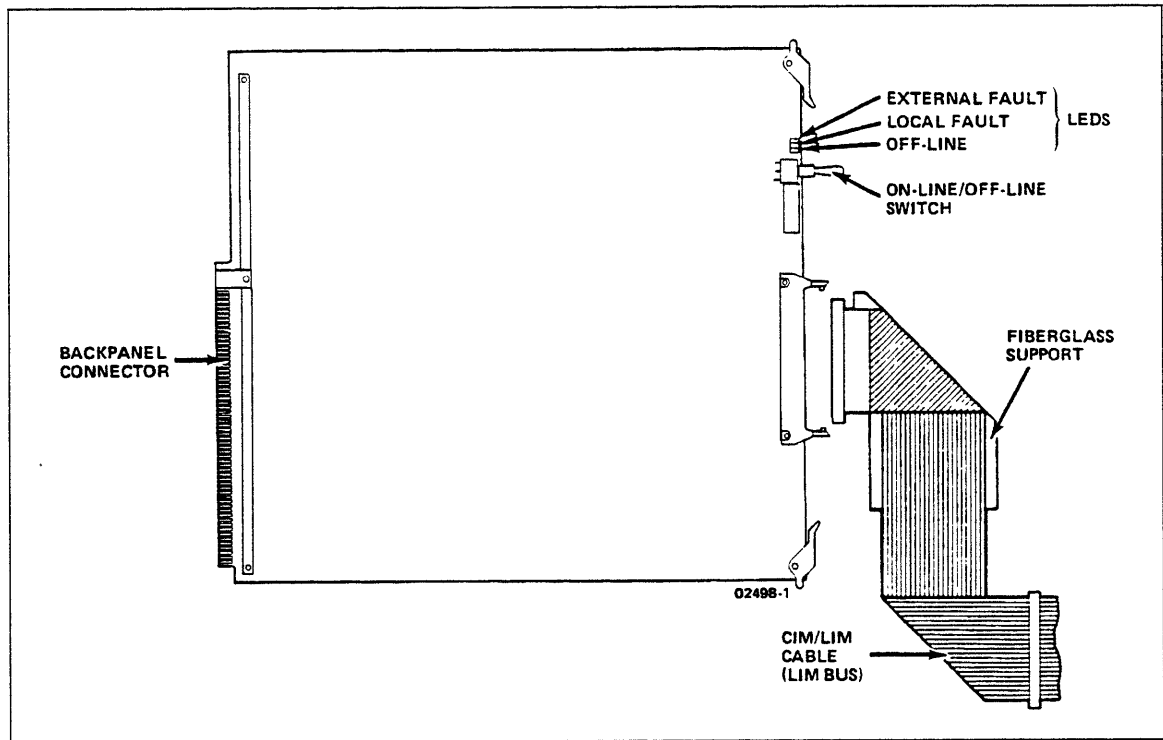

Figure 3-39. CIM Board and CIM/LIM Cable
2. Unpack CIM board and CIM/LIM cable assembly (figure 3-39), equipment label, and FCO label.